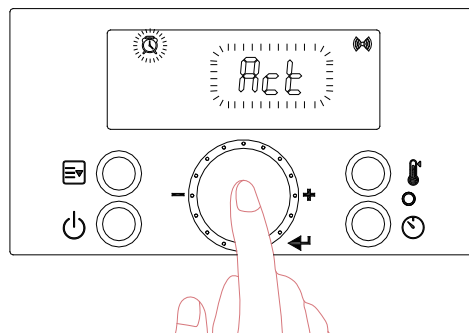

Figure 41 – Setting the Recirculation Timer Type
- b. Press the  button at the “Act” screen to select the Recirculation Timer type. See Figure 41. Turn the dial  to choose between “Auto” or “Pro9”.
- NOTE: If “Auto” is selected, the water heater will monitor and record hot water usage patterns over a period of seven (7) days. After this learning period, the water heater will use the usage pattern to automatically cycle the pump and preheat the water.